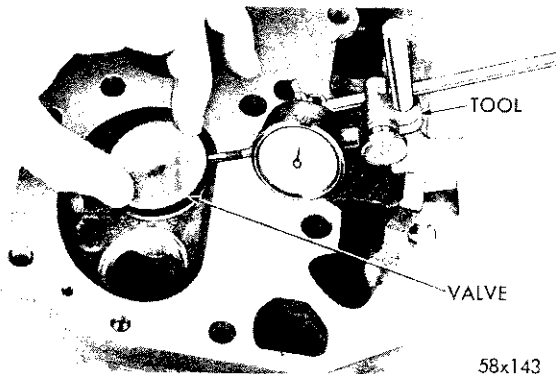

Fig. 14—Measuring Guide Wear Using Tool C-3339
(5) The special sleeve places the valve at the correct height for checking with a dial indicator. Attach the dial indicator Tool C-3339 to cylinder head and set it at right angle of the valve stem being measured (Figure 14).